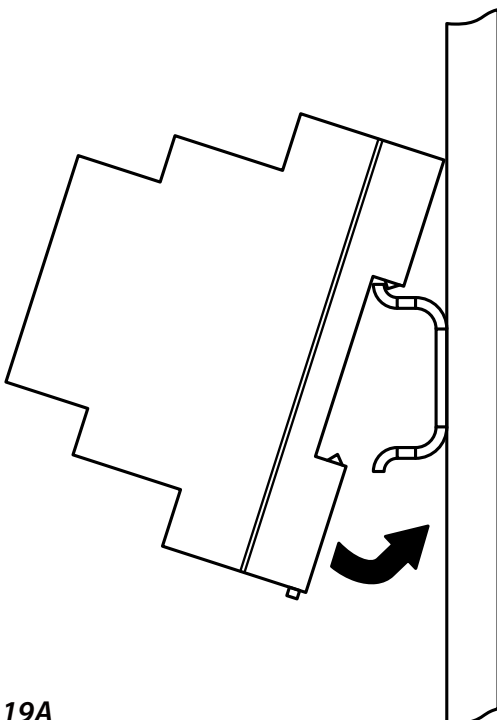

Fig.19A
- Fix the power supply to a DIN rail (following Fig.19A, Fig.19B and Fig.19C).